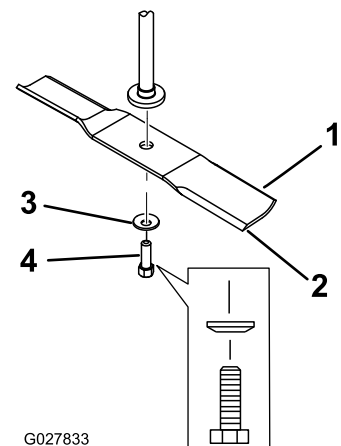

Figure 59
2. Remove the blade bolt, curved washer, and blade from the spindle shaft (Figure 59).
1. Install the blade onto the spindle shaft (Figure 59).
2. Install the curved washer (cupped side toward the blade) and the blade bolt (Figure 59).